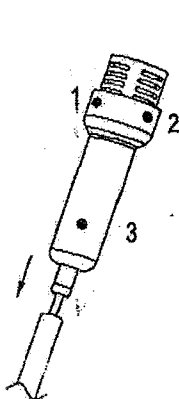

Fig.1
1. Unscrew the 3 screws on handle then take out the handle cover. (See Fig.1)